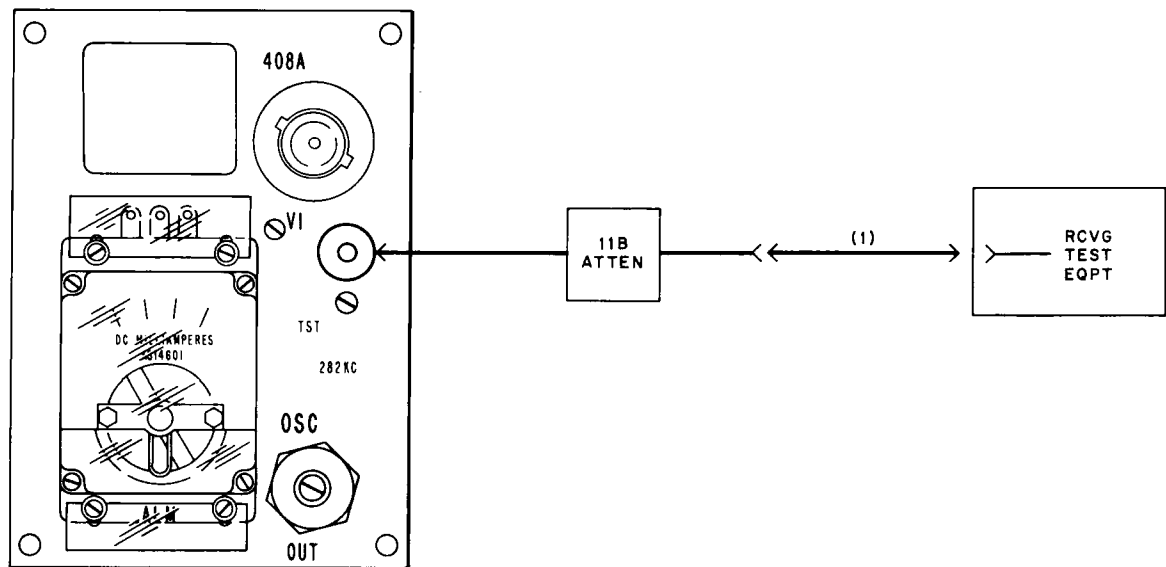

Fig. 6—Patching Arrangement to Measure Oscillator Output Power
2	Connect the 11B attenuator to the TST jack on the oscillator under test (see Fig. 6).
3	Connect the RTE to the 11B attenuator [patch (1), Fig. 6]. ♦Note: The 30-dB loss of the 11B attenuator must be considered in any measurements made.♦